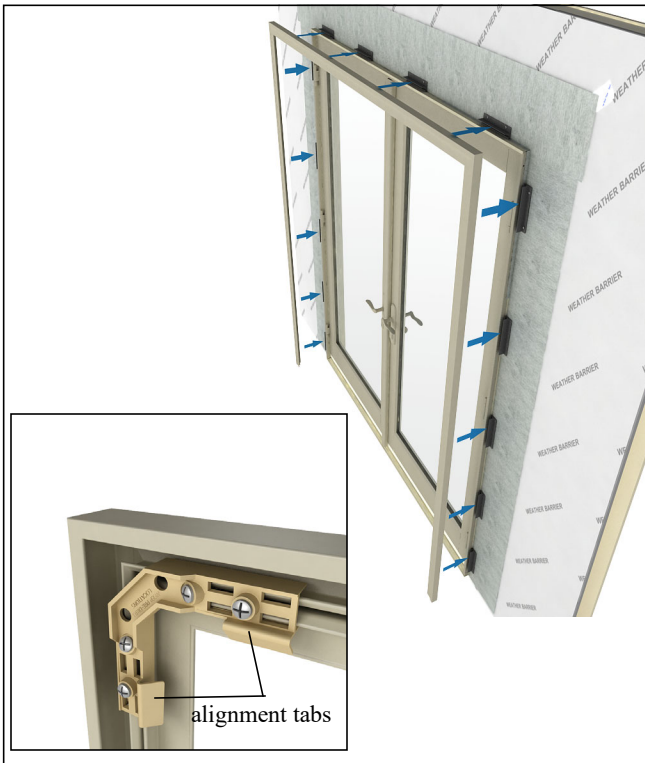

Figure 54
5. Press casing assembly onto connection bars by lining up all corners with the corner key alignment tabs. Press firmly (20-40 pounds of pressure) around the entire casing assembly until it is seated fully over door. **Do not use excessive force, mallets, hammers, etc.** See *figure 54*.